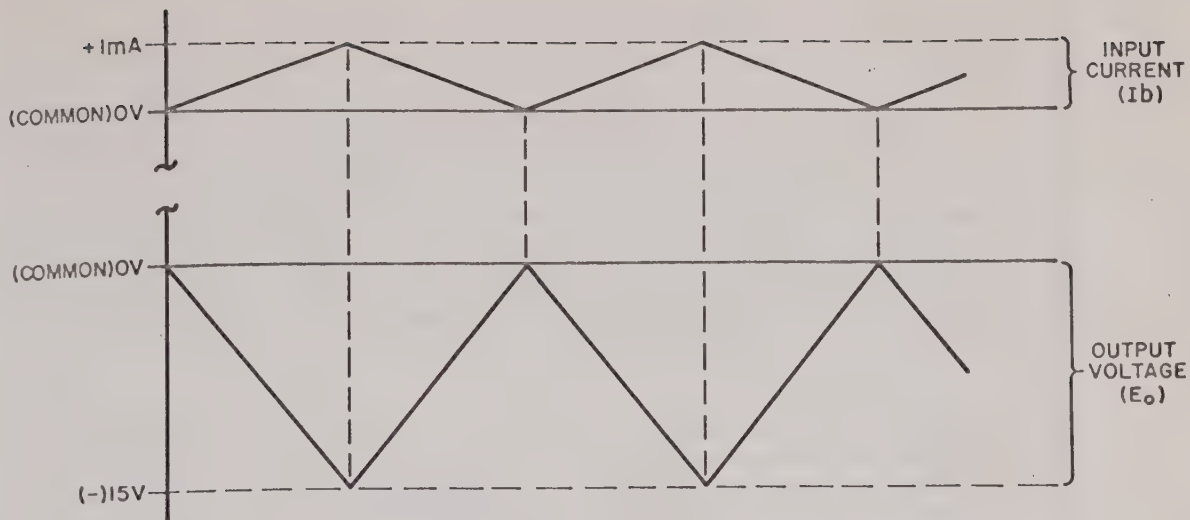

FIG. 3-9 PROGRAMMING WITH A POSITIVE-GOING INPUT SOURCE.
- 3-33 EXAMPLE II A Model OPS 15 -3M is to be programmed to produce a triangular wave with an amplitude of 15 volts (p-p). The input signal is provided by a Kepco Model FG-100A Function Generator, which can provide a direct, positive 1 milliamper drive. This makes it possible to work without d-c bias and without an input resistor. The input/output waveforms and their phase relationship are shown in FIG. 3-9.